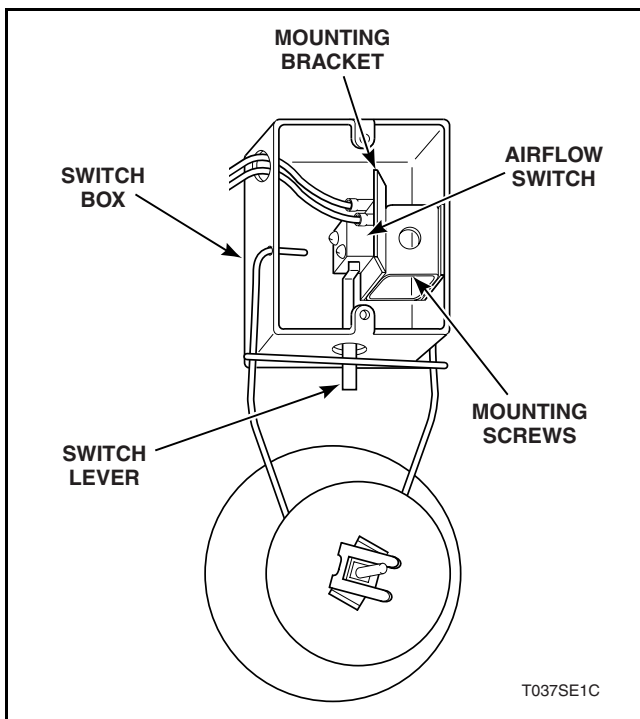

Figure 29
- Remove screw(s) holding switch and mounting bracket to switch box. Refer to *Figure 29*.